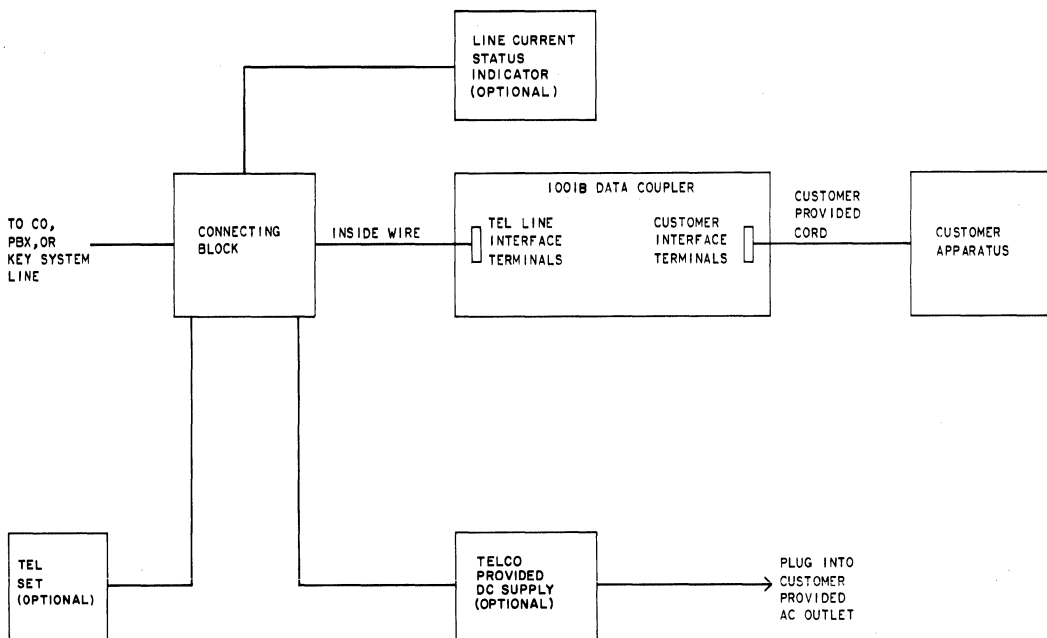

Fig. 12—Block Diagram of Typical 1001B Data Coupler Installation
- (1) For all analog modems, Type II requirements should be specified.
- (2) For all other modems, requirements based on speed of modem (same as for switched DATA-PHONE service) should be specified.
- (3) If the type of modem is known to be similar to a Bell System DATA-PHONE data set, use the requirements for that particular data set.
4.03 Installation of the coupler should comply with general practices to ensure an orderly station arrangement. Information relating to a selection or type of connecting block and electrical code requirements is given in Section 590-010-200. See Fig. 12 for a typical interconnection block diagram.